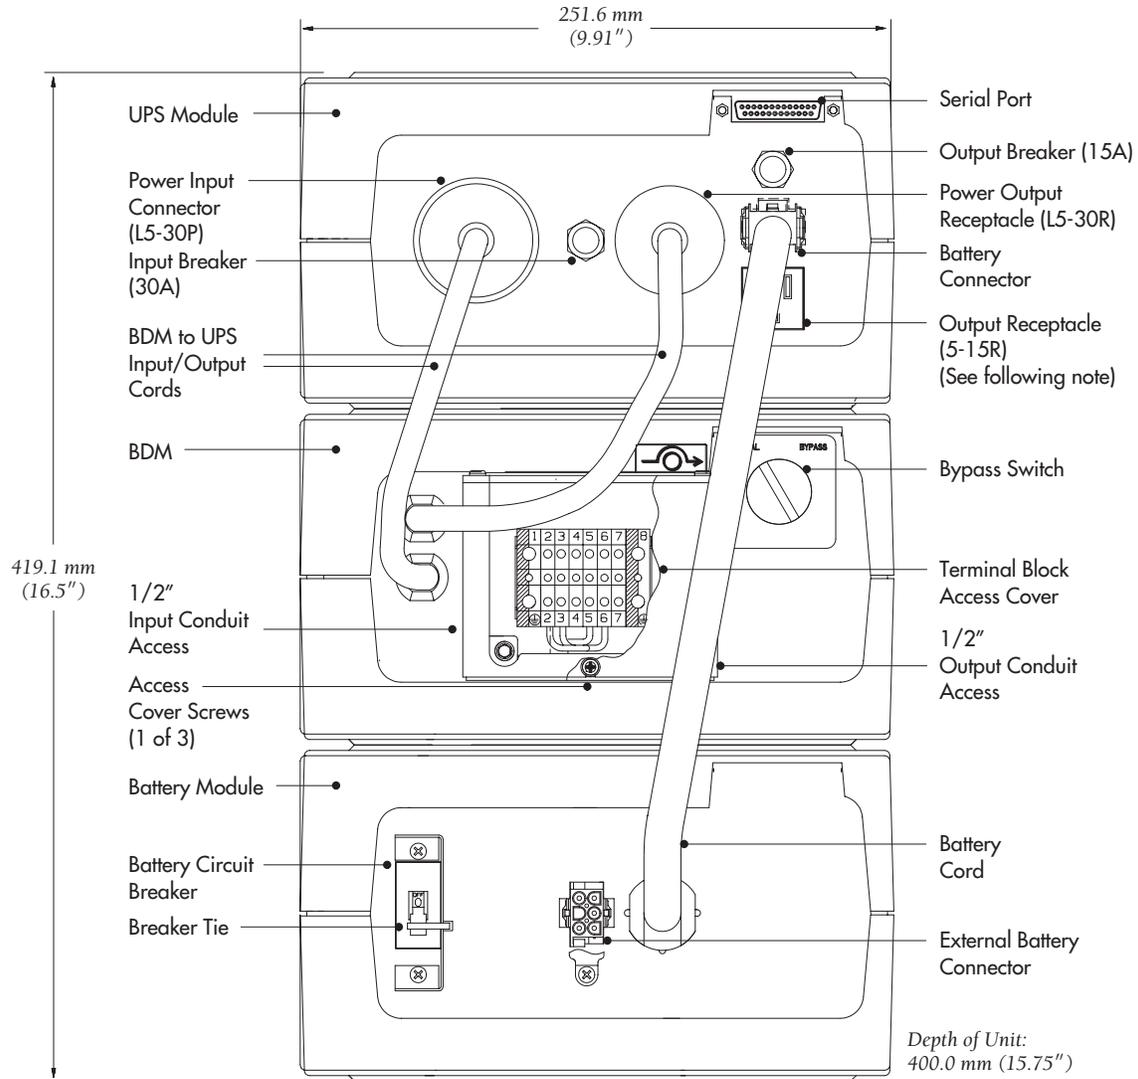

Figure 6. UPS with Hardwired BDM Rear Panel
- 12** Remove the three screws on the terminal block access cover with a Phillips screwdriver and remove the cover (see Figure 6).
- 13** Connect standard half-inch conduit through the terminal access box (see Figure 6) and hardwire to the terminal block.